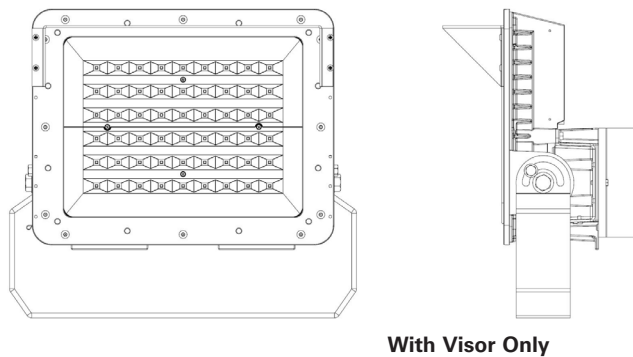

Figure 9
3. Carefully align visor with four (4) screw holes at the top of the fixture shown in Figure 9.